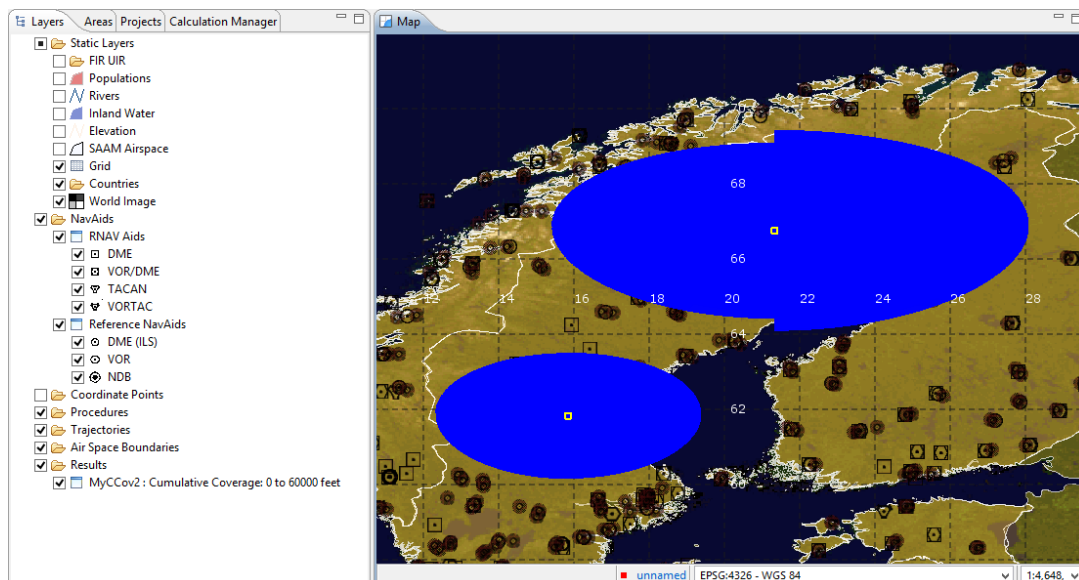

Figure 154: Cumulative Coverage for NavAids with non-intersecting coverage
Please notice that in the legend of the layer (1), a different color is used in order to distinguish **the number of NavAids covering it (2)**. Thus, if the selected NavAids' area coverage does not overlap in any point, the result will be only multiple zones with value 1 that corresponds to each NavAid's individual coverage (Figure 154).